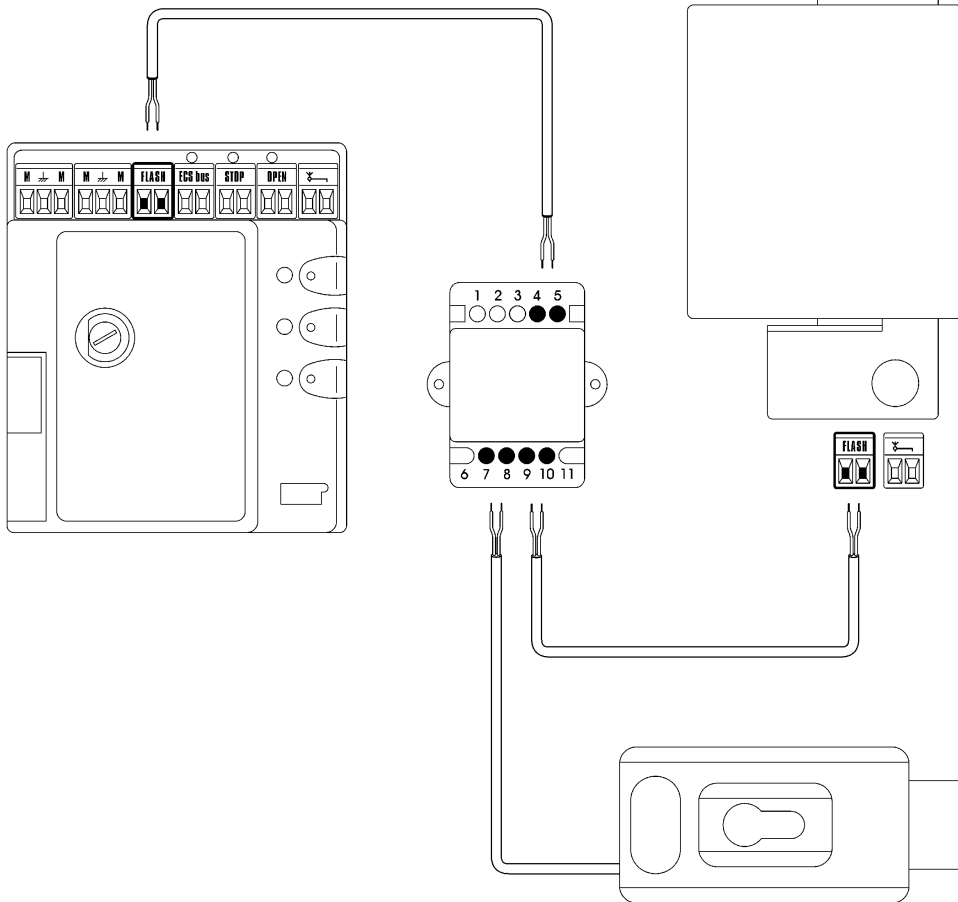

Fig. 1
3. Following the indications in table 1, connect the EL1 interface as shown in Fig. 1. The polarity does not need to be respected when making the connections.